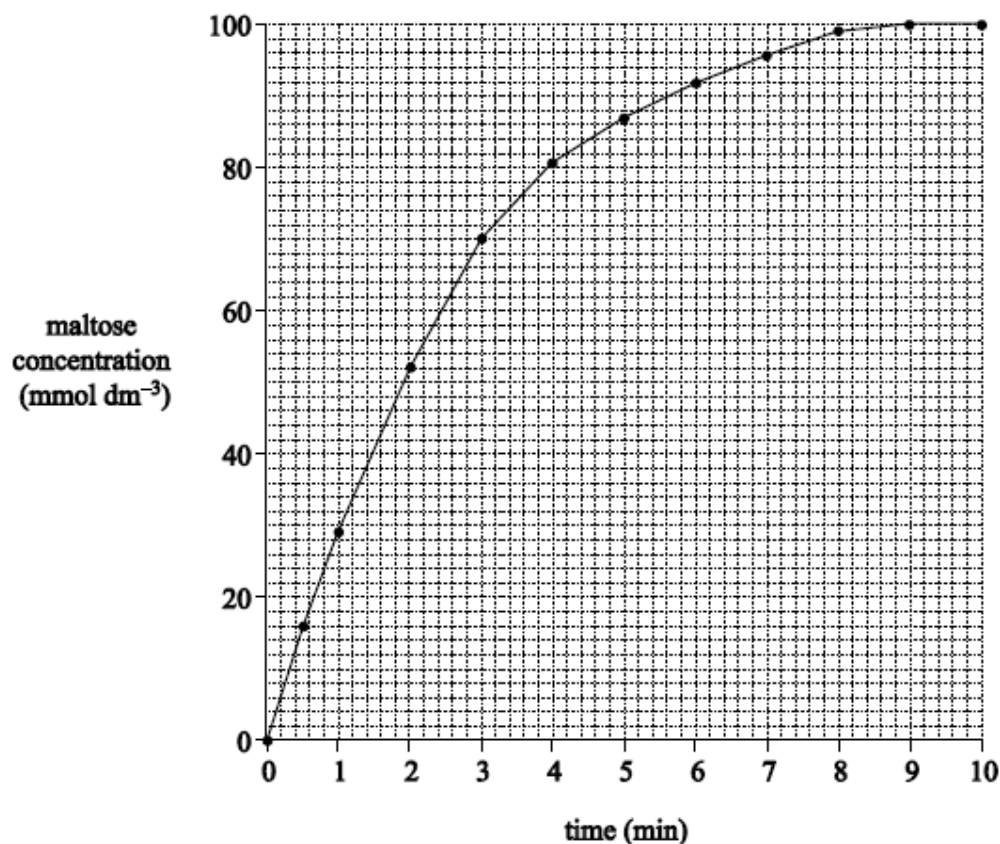

Fig. 2.1
- (a) A student investigated the breakdown of starch into maltose. The results are shown in **Fig. 2.1**.